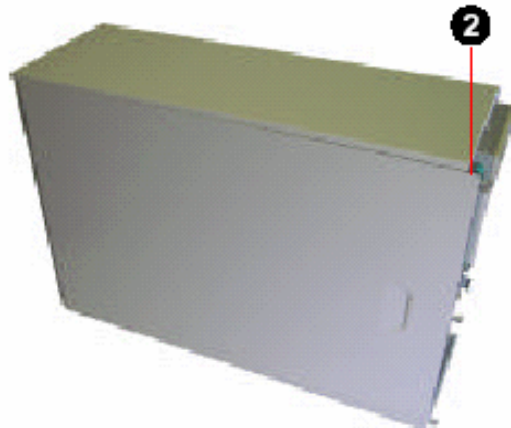

Figure 6: Removing the Side Panel
- (b) Loosen the three thumbscrews (1) of the side cover.
- (c) Slide the side cover towards the front until it stops (2) then lift upwards taking it off from the chassis body. See Figure 6